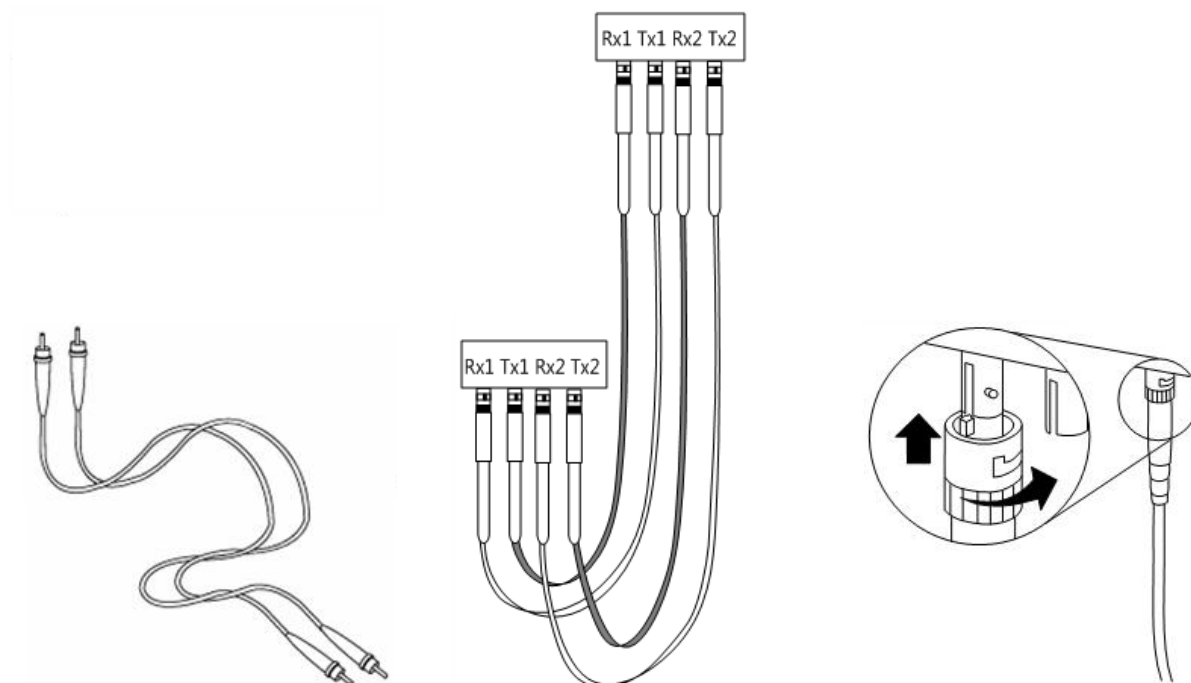

Figure 220 Optical Fiber Connection of LK233
The optical fiber is cross-connected between the two modules, with one end used for transmitting and the other end used for receiving. The transmitting end (TX) is connected to the receiving end of another LK233 module (RX). And vice versa is shown in Figure 220.